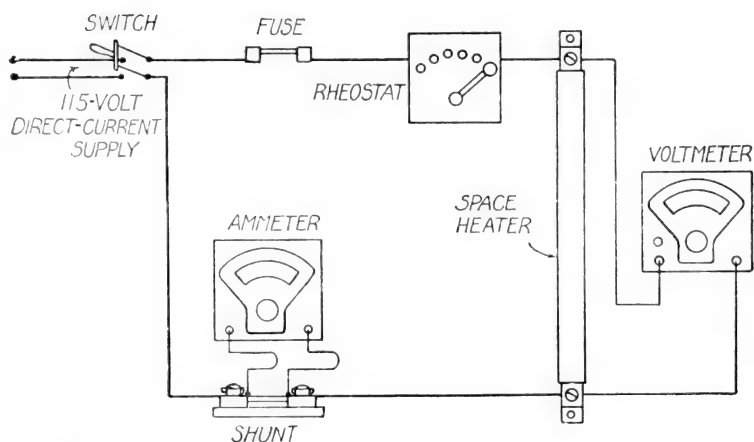
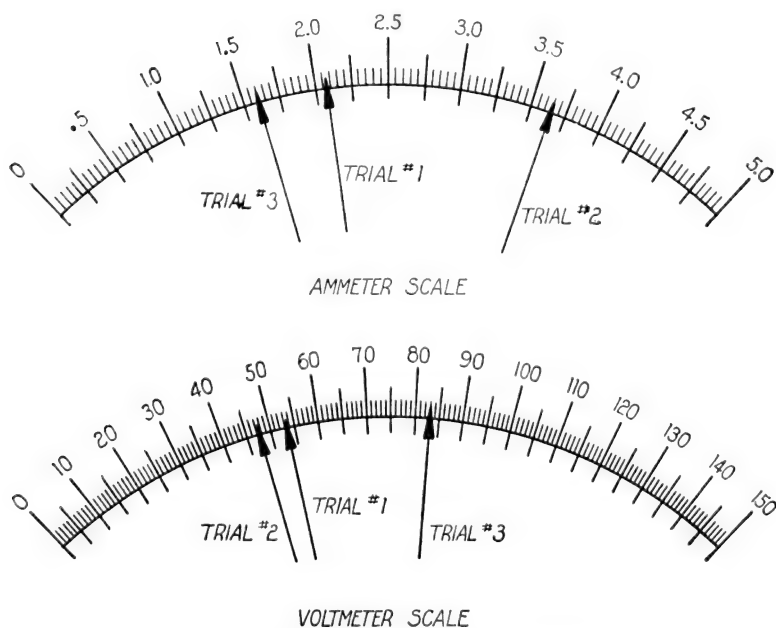
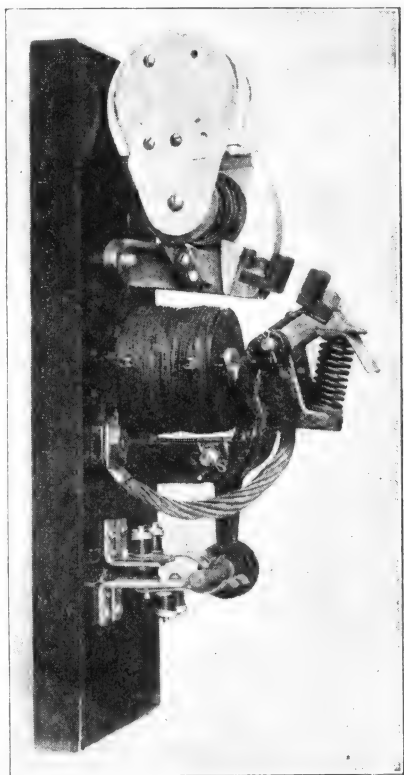

Fig. 16. Circuit Connections for Measuring Resistance of an Electric Heater
Fig. 17. Ammeter and Voltmeter Readings
Fig. 20. A Contactor
**Resistances in Series and Parallel.** As an illustration of the effect of connecting resistances in series and in parallel, let us consider two 115-volt 500-watt space heaters, similar to those used for electrically heating cars and small ovens. It will first be necessary to measure the resistance of each space heater separately. Fig. 16 shows the circuit which consists of a switch, a 5-ampere fuse, a rheostat, a 150-volt voltmeter, an ammeter with a 5-ampere shunt, and the space heater, the resistance of which is to be measured. In order that the space heaters do not become too hot to handle, we shall apply something less than half the usual amount of current. This is done by cutting all of the resistance in the rheostat into the circuit and then closing the switch. With all the rheostat resistance in the circuit, the meter readings are low; and in order to increase the current, we cut out some of the rheostat resistance. Let us assume that the ammeter and voltmeter readings are as shown in Fig. 17, Trial 1. The ammeter indicates 2.07 amperes and the voltmeter 53.5 volts. By Ohm's Law, we may now calculate the resistance of the space heater.
Now let us measure the resistance of the two space heaters connected in parallel. The readings are as shown for Trial 2, Fig. 17. The ammeter shows 3.65 amperes and the voltmeter 47.5 volts. By Ohm's Law, we have
When measured electrically, the instruments indicate readings as shown for Trial 3, Fig. 17, ammeter 1.60 amperes and voltmeter 83.0 volts. Calculating by Ohm's Law, we have
The contactor, shown in Fig. 20, has a coil designed for 230-volt direct current. For this measurement we shall need a low reading ammeter having a full-scale deflection of say 0.300 ampere. A meter of this type is called a milliammeter and has a range of 300 milliamperes. (1000 milliamperes equals 1 ampere. 300 milliamperes equals 0.3 or  $\frac{300}{1000}$  ampere.)
If the contactor coil in Fig. 20 is substituted for the space heater in Fig. 16 and the switch closed, the deflection on the 5-ampere ammeter will be very small. When all the resistance is cut out of the rheostat, the ammeter will indicate about 0.1 ampere or about 2 small divisions above zero. This indicates that the 300-milliamperere meter may be substituted for the 5-ampere shunt and meter. Now with all of the rheostat resistance cut out, we find the deflection of the voltmeter to be 112 volts and the milliammeter indicates 0.107 or  $\frac{107}{1000}$  ampere.